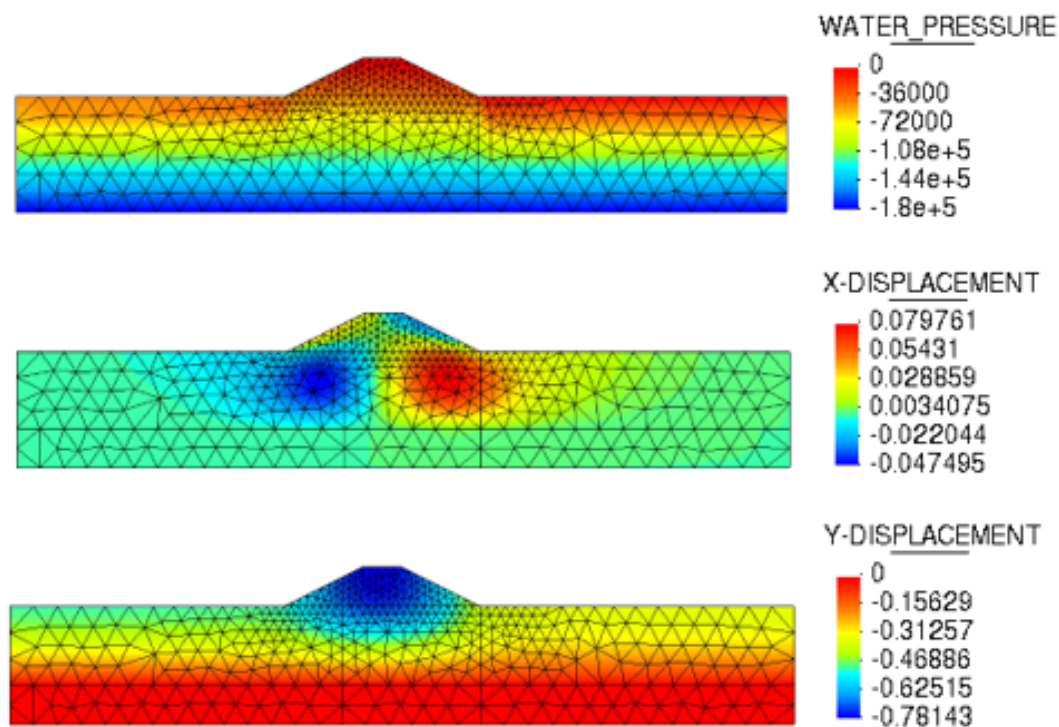

Figure 8.10: Contour results tutorial 1 part 1, top to bottom: water pressure, x-displacement, y-displacement
- 35 As an intermediate check before going on to the next part of the tutorial, check if the Water Pressure, the x-displacement and the y-displacement are calculated correctly. In Post-process, click on  and select: "WATER PRESSURE", then "DISPLACEMENT -> X-DISPLACEMENT" and lastly, "DISPLACEMENT -> y-DISPLACEMENT". Check if the contours are the same as shown in Figure 8.10